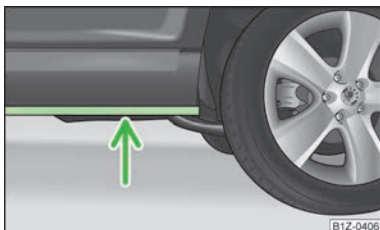

Fig. 128
- Therefore determine the depth of the water before driving through bodies of water. The water level must fit around the strut on the side member as a maximum » Fig. 128;